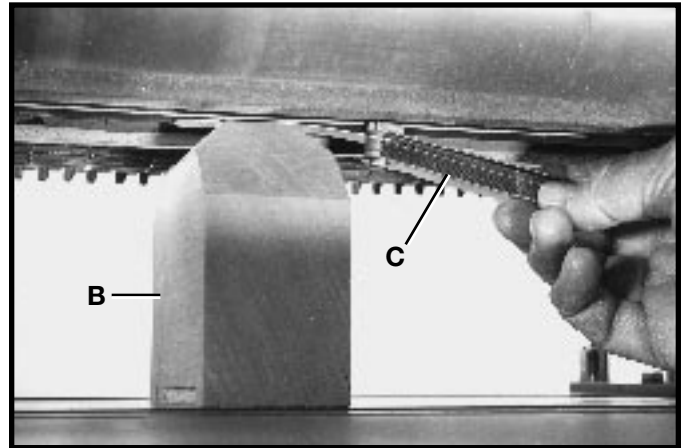

Fig. 40
3. Place gage block (B) Fig. 40, on the table surface and directly under the cutterhead as shown. Using a .010 feeler gage (C) Fig. 40, placed on top of the gage block, raise the table until cutterhead knife (D) touches the feeler gage when the knife is at its lowest point. **DO NOT MOVE THE TABLE ANY FURTHER UNTIL THE ADJUSTMENT HAS BEEN COMPLETED.**